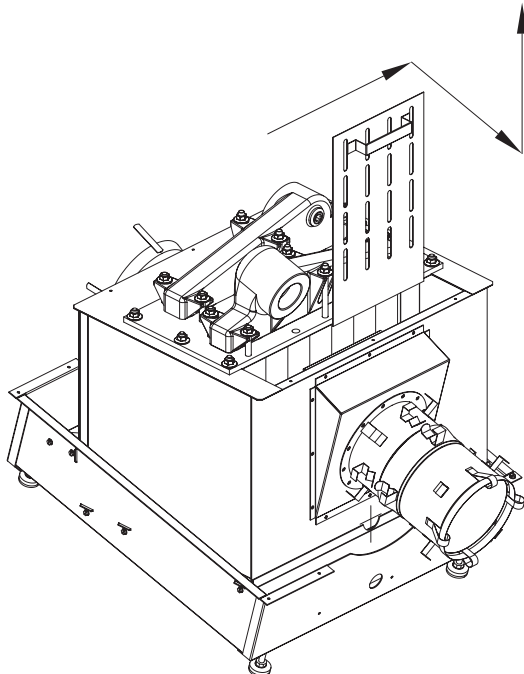

Fig. 36: CHX Left-Side Baffle Removal
8. Reinstall the baffles, as shown in Figure 36.